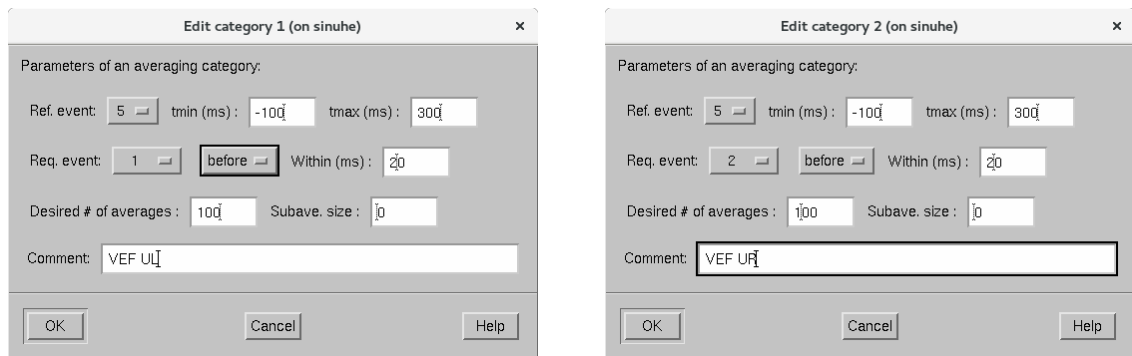

Figure 34: Setup event averaging categories for the first two visual events.
- Activate **Averaging categories** 01, 02, 03, 04 for on-line averaging (Figure 34):